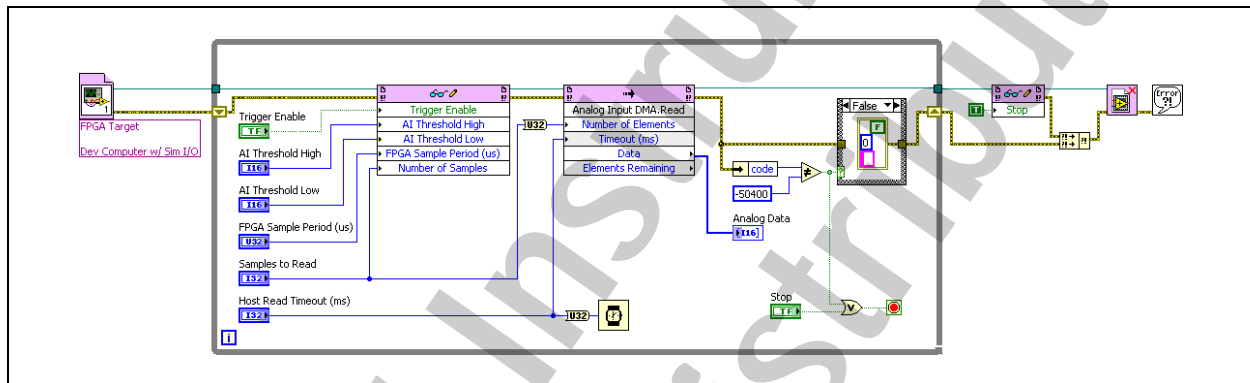

Figure 9-7. Custom Trigger Windows Host VI Block Diagram
- 9. Build the block diagram for Custom Trigger Windows Host.vi, as shown in Figure 9-7. This VI runs on the PC host target and serves as the user interface to the FPGA VI. This VI passes data to the controls that you created on the Front Panel of Custom Trigger AI.vi and reads the data that was written to Analog Input DMA. Build the block diagram using the following items:
- Set the remaining elements as shown in Figure 9-7.